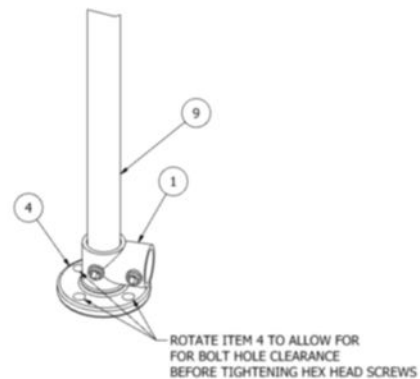

FIGURE 6
2. Place ITEM 1 over ITEM 9 and thread ITEM 4. **SEE FIGURE 6.** *Note: Tighten ITEM 4 to ITEM 9 aligning bolt holes such that sufficient room for bolt placement is available (see note on FIGURE 6).*